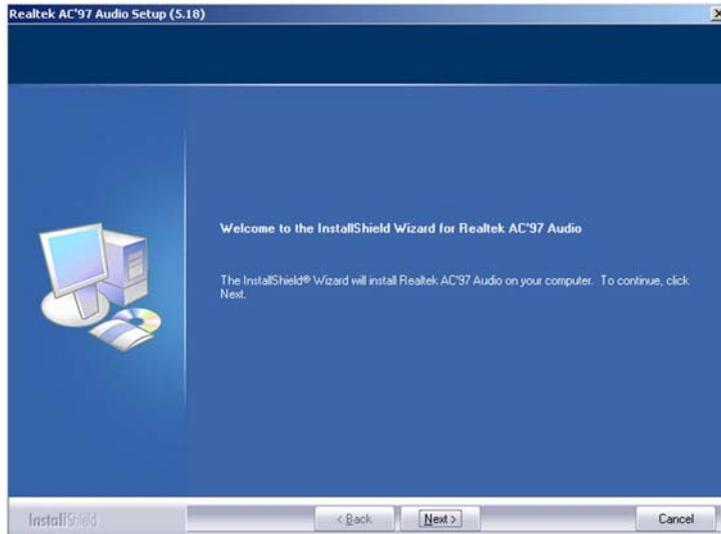

Figure 7-14: Audio Driver Welcome Screen
Step 6: The welcome screen shown in **Figure 7-14** appears. Click the "NEXT" button to